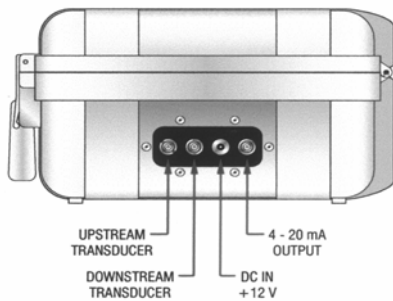

Figure 1.4
2. Connect the appropriate wires to the corresponding connections on the transmitter. The transducer cable has markings of UPSTREAM and DOWNSTREAM to assist in the installation process. The UPSTREAM transducer is the one located closer to the direction from which fluid flow normally comes from (The fluid normally passes the UPSTREAM transducer before passing the DOWNSTREAM transducer). If the transducer wires are connected backwards, a negative flow indication will be observed on the flow meter display. See **Figure 1.4** or the Wiring Diagram located on the inner door of the transmitter.
The 12 Volt DC power converter and 12 Volt cigarette-style power cord connect to the socket connection located on the side of the enclosure. See **Figure 1.4**. A fully charged battery will provide up to 24 hours of continuous operation before recharging will be necessary. When the battery level has decreased to a point where recharging is required, the LOW BATTERY indicator will illuminate on the front panel. At that point, the meter will only operate a short time more until it automatically turns itself off—preventing excessive battery discharge that can damage the Gel Cell battery.